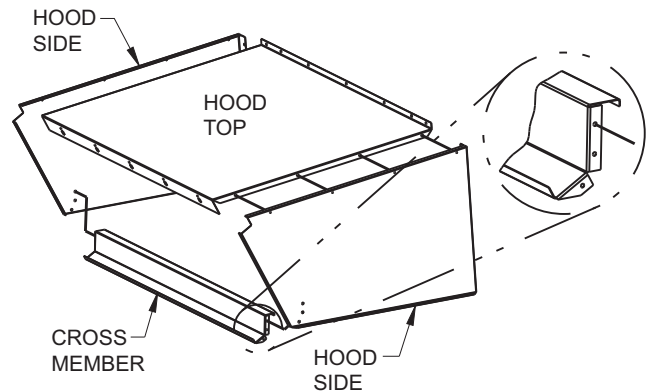

Fig. 25 — Economizer Hood Assembly
3. Assemble hood sides, top, and cross member with gasketed screws provided. See Fig. 25.